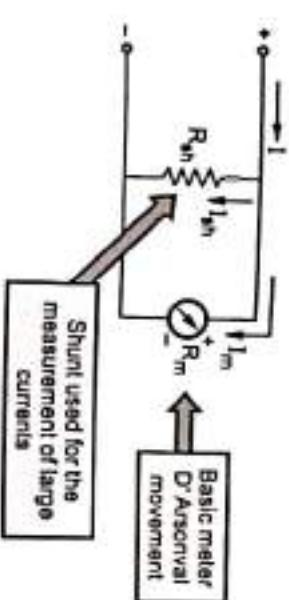

Fig. Q.12.1 Analog ammeter
- The shunt is connected in parallel with the basic meter as shown in the Fig. Q.12.1.